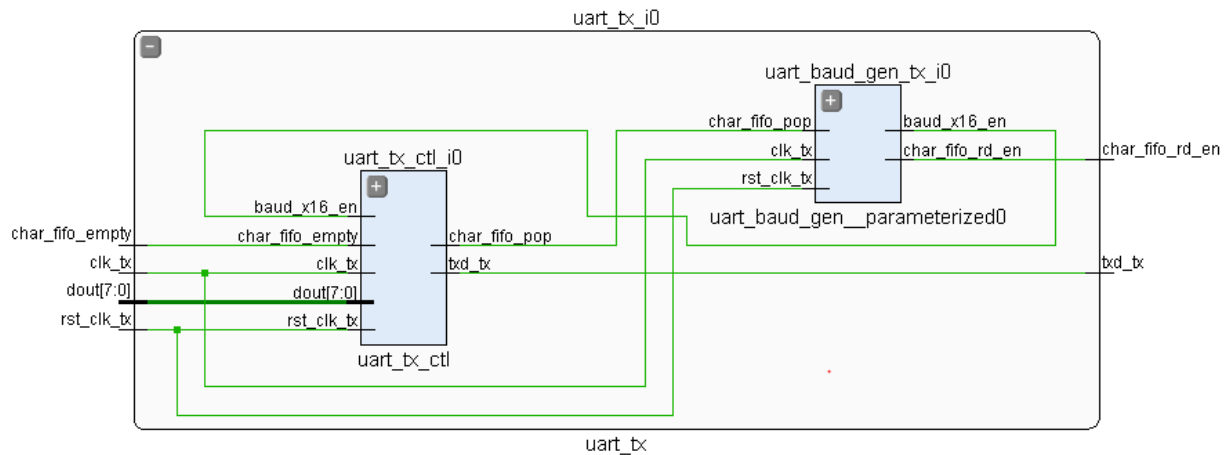

Figure 2-51: Setting XDC File Scoping Properties Example
**Figure 2-51** shows the `uart_tx_i0` cell, an instance of the `uart_tx` module, which includes two hierarchical cells, `uart_tx_ctl_i0` and `uart_baud_gen_tx_i0`.